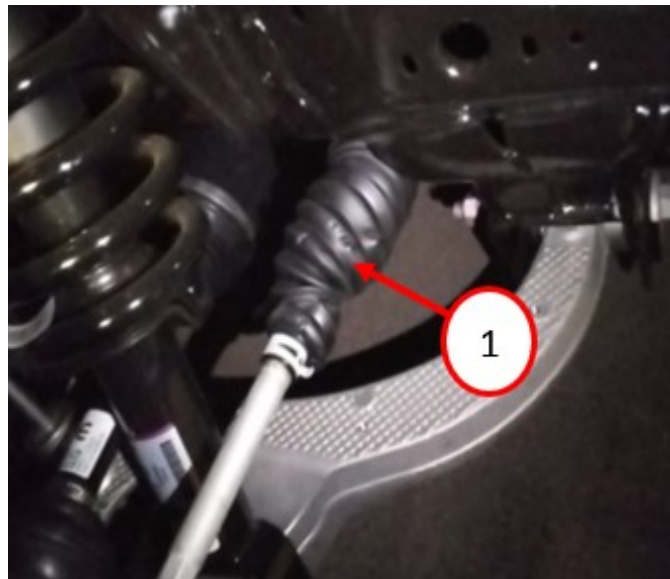

Fig. 1
3. Are either of the inner tie rod boots deformed, dented, creased, twisted or damaged Fig. 1?